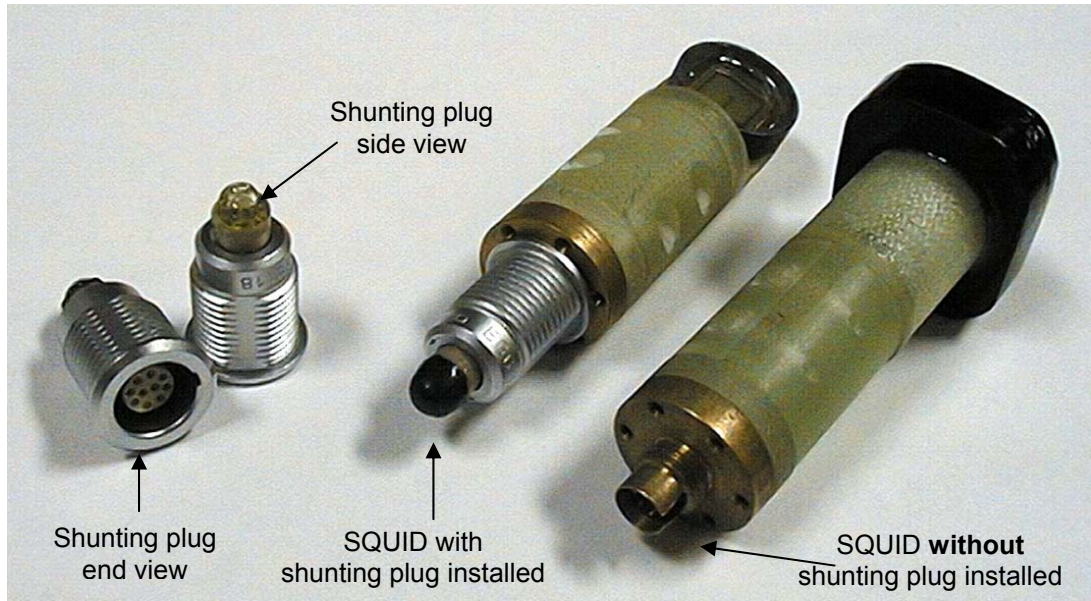

Figure 41 Shunting Plugs
- Connect the shunting plug at the top connector when the SQUID is not in use for extended periods and always for shipment. See Figure 41.